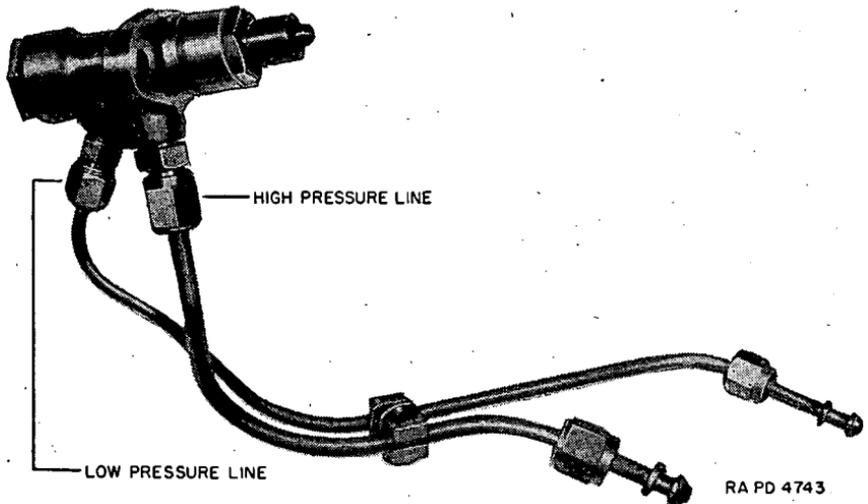

FIGURE 42.—Fuel injector valve, Guiberson engine.
67. Fuel pressure pump (fig 40).—Each cylinder has an independent high pressure pump connected to the fuel injector by means of thick wall high pressure tubing (fig. 42). The pumps are mounted on the rear half of the crankcase in back of their respective cylinders. In operation these pumps produce enough pressure to force fuel through the fuel injector valves, and also control the quantity of fuel going into the combustion chambers. Replacement of a fuel pressure pump will not be attempted by the using arm personnel.
68. Fuel injector (fig 42).—*a. Description.*—On each cylinder head a fuel injector atomizes the fuel sprayed into the combustion chamber.
b. Replacement.—(1) To remove the fuel injector, use the following procedure:
- (2) To replace pump, proceed in reverse order.
71. Cartridge starter (fig. 42).—*a. Description.*—Cartridge engine starters derive their power for operation from the gas pressure developed when a cartridge is fired. A fresh cartridge is required for each start. The complete starter and breech assemblies consist of—